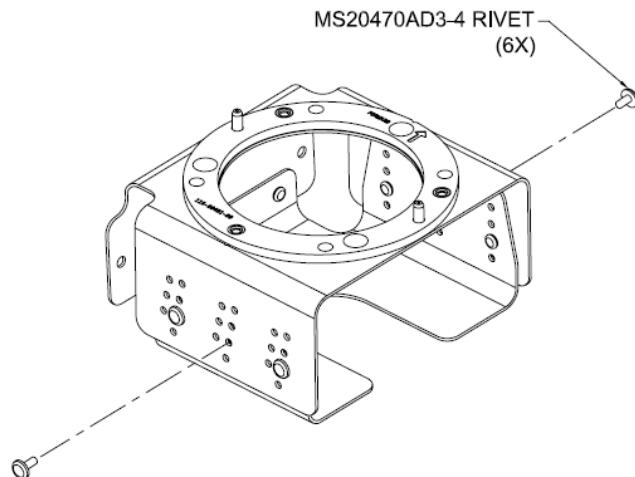

Figure A-12 Rivet shifted Magnetometer Mount
- With the GMU 22 mount setup for installation in the right wing, shift the bracket to the minus 2 degree setting and rivet it in place using six 1/8" button head rivets as illustrated in Figure A-12.